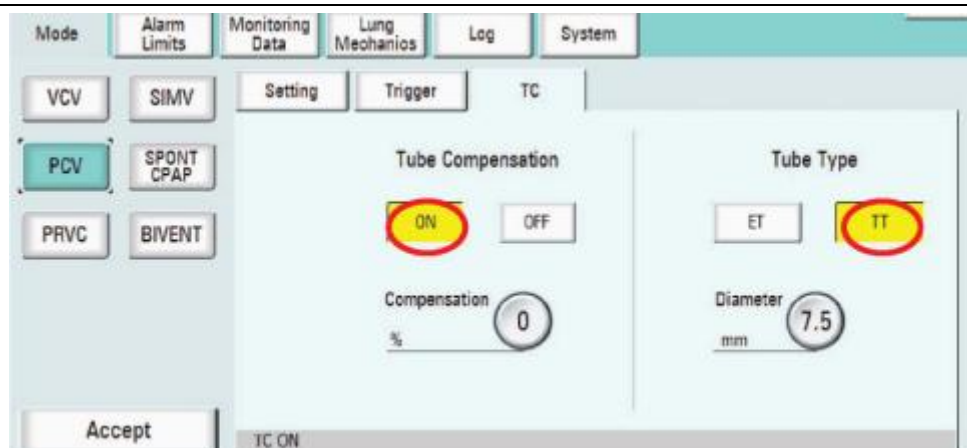

Figure 6-25
Tube compensation (TC) will be available only in pressure modes (PCV, SIMV (PCV), SPONT/CPAP and BIVENT). Select tube compensation “On” and the “On” key will become yellow as an acknowledgement, as shown in Figure 6-25.
Select the tube type in this interface: ET (Endotracheal Tube) or TT (Tracheotomy Tube), and the selected one will become yellow as shown in Figure 6-25.